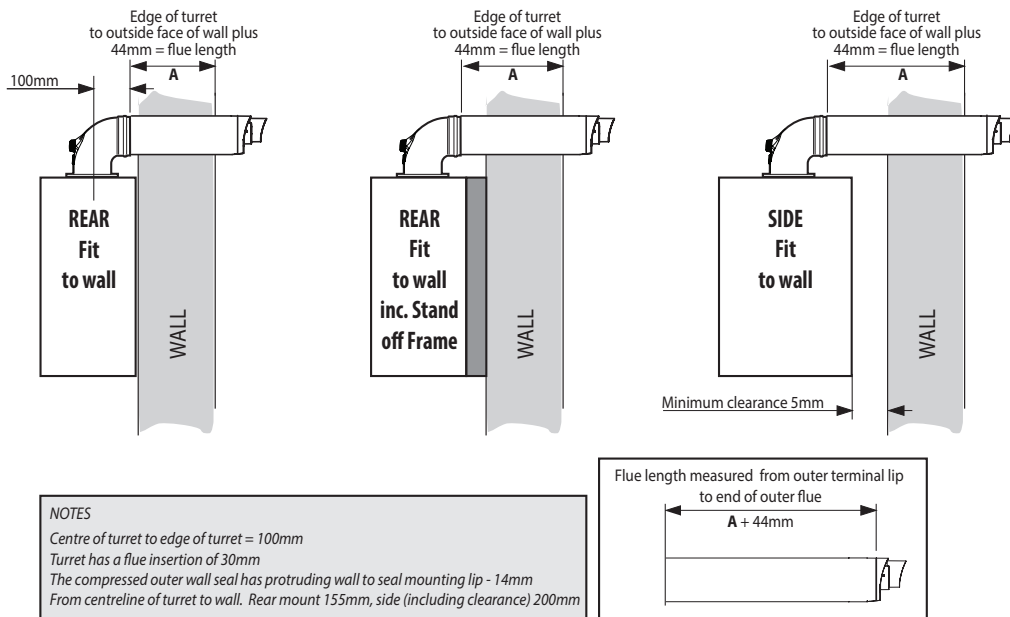

FIGURE 2
1. Measure the required cut flue length ($A+44\text{mm}$). If inside the dimensions shown in Figure 2 "1 Piece 600mm" proceed.